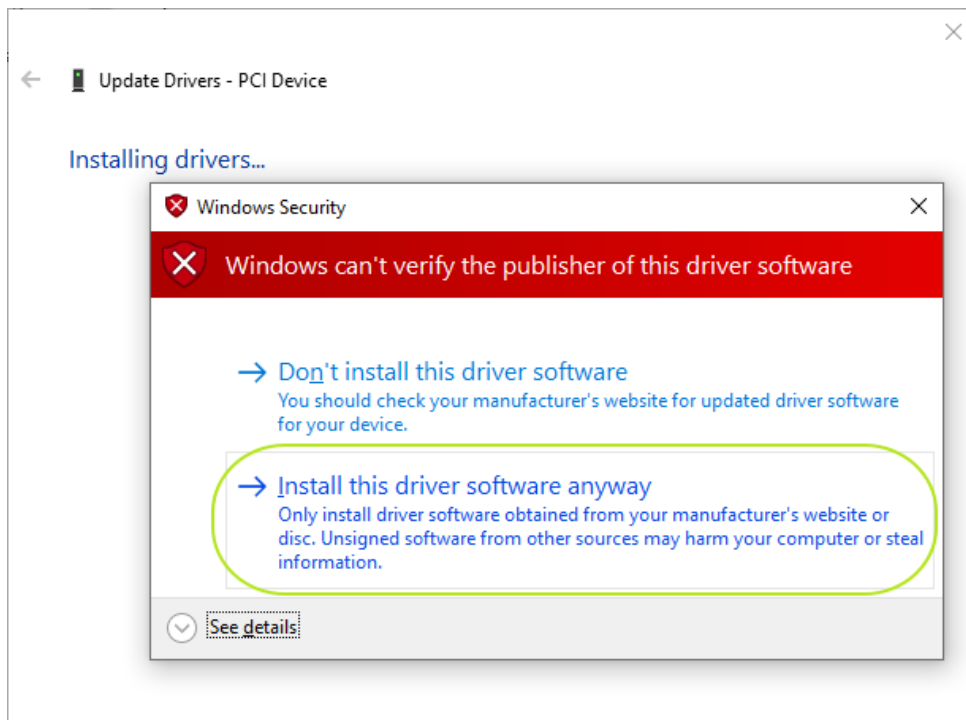

Figure 3-6 Click Install in the dialog of Windows Security
9. When the **Windows Security** dialog appears, as shown **Figure 3-6**, click the **Install** button.